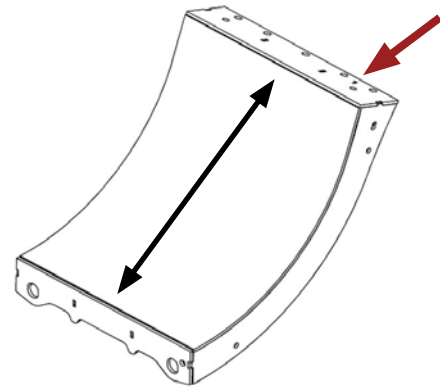

Figure 29.1
- Modules are identified by their position, such as “1R” for the right front, and “4L” for the left rear module (see figure 29.1)